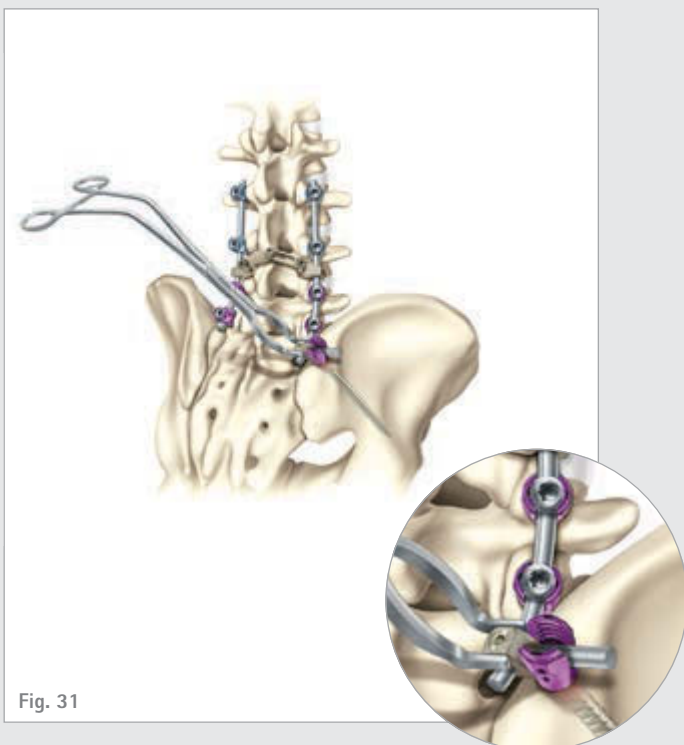

Fig. 31
- Use the Rod-To-Rod Connector Inserter (FW493R) to grab the lateral offset connector and attach it to the rod from the main construct. (Fig. 31)